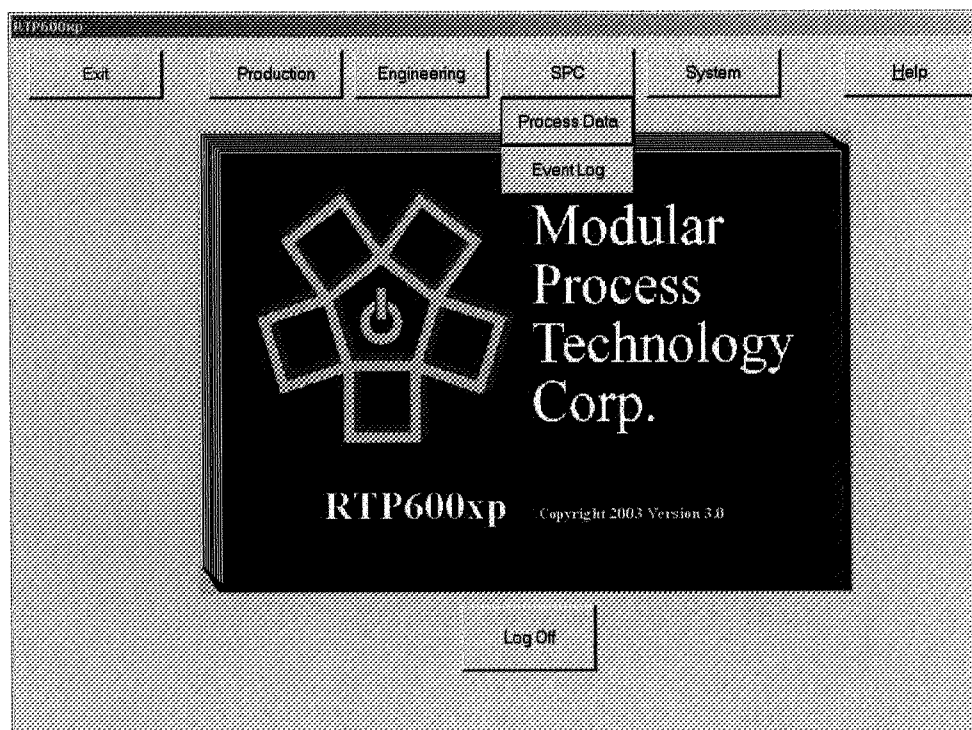

Figure 3-17. ***SPC Mode Directory Pop-Up Screen***
2. The **SPC Mode Directory Pop-Up Screen** will appear (see **Figure 3-17**).